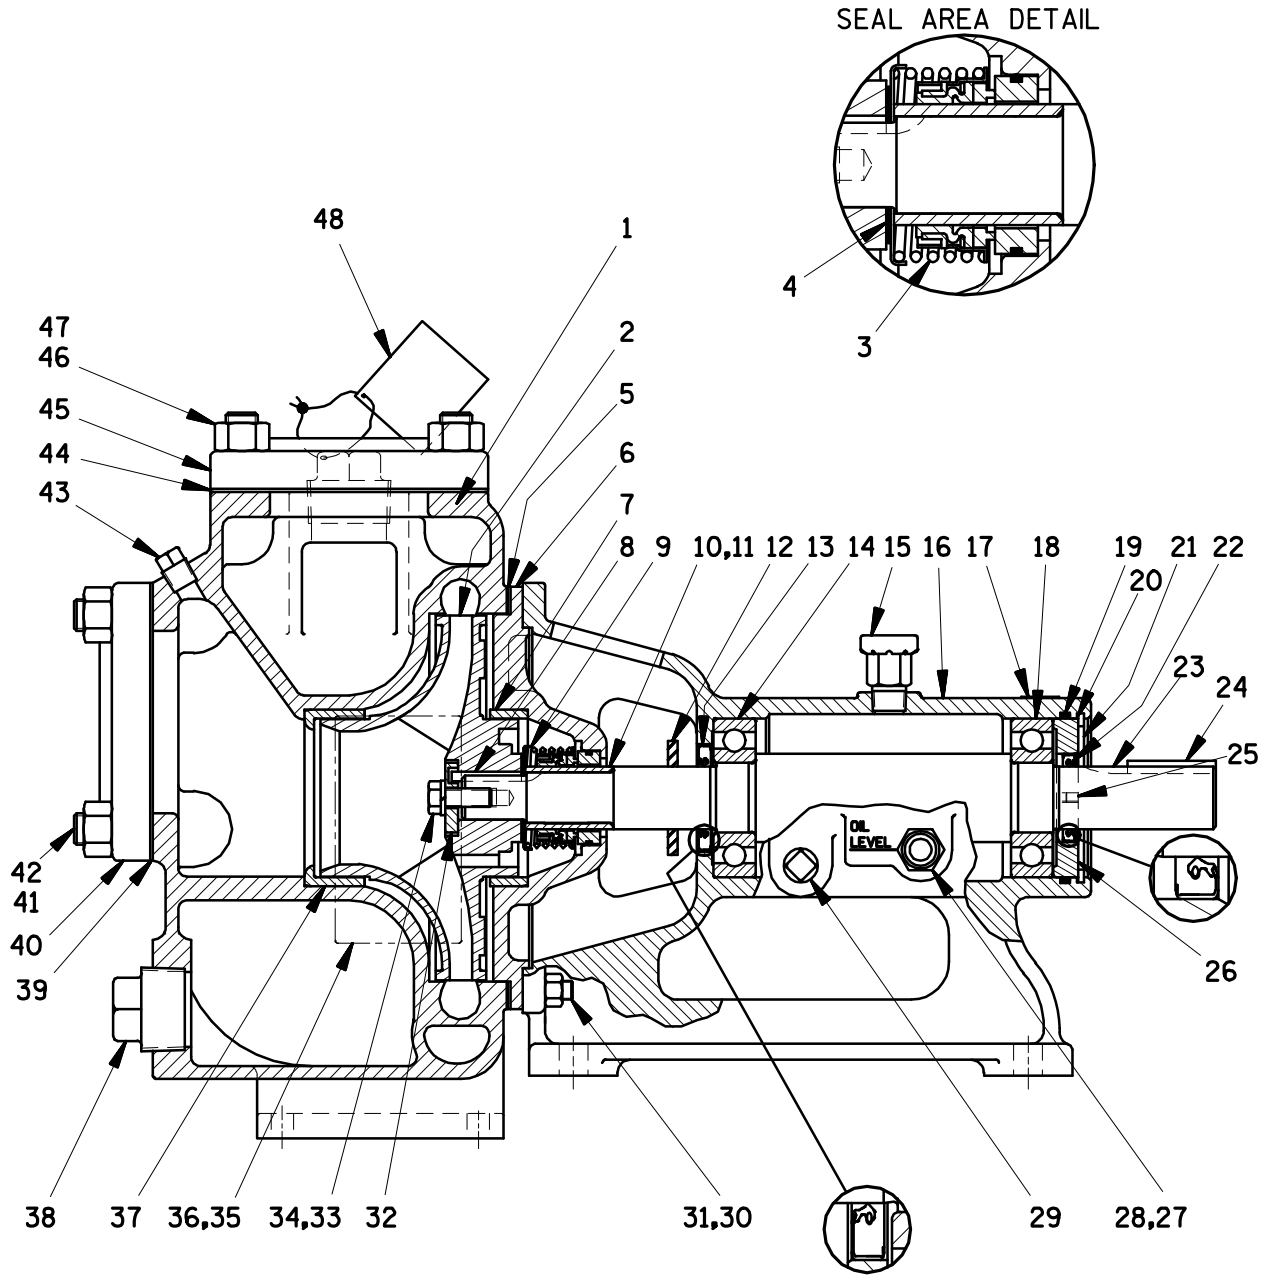

Figure 1. Pump Model 03J1-B
This pump requires little service due to its rugged, minimum-maintenance design. However, if it becomes necessary to inspect or replace the wearing parts, follow these instructions which are keyed to the sectional view (see Figure 1) and the accompanying parts list.
**(Figures 1 and 2)**